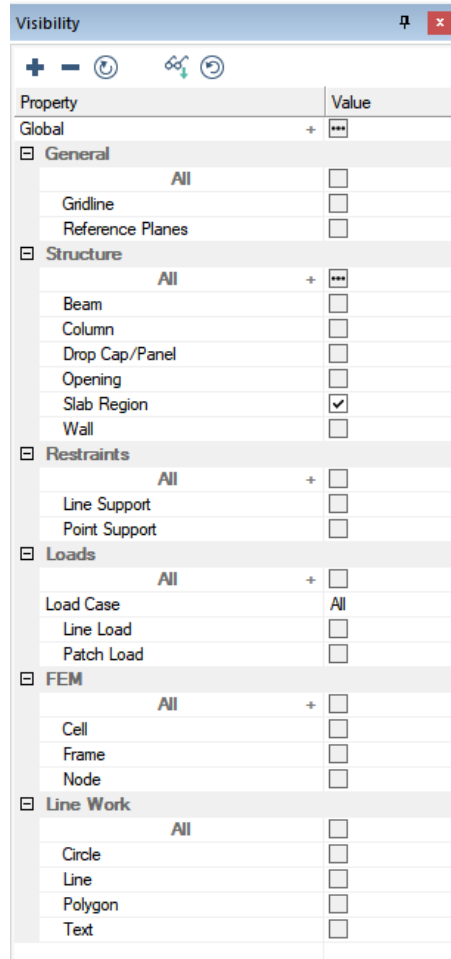

FIGURE 8-11
- In the *Visibility Grid* make the following selections as shown in **FIGURE 8-11**.